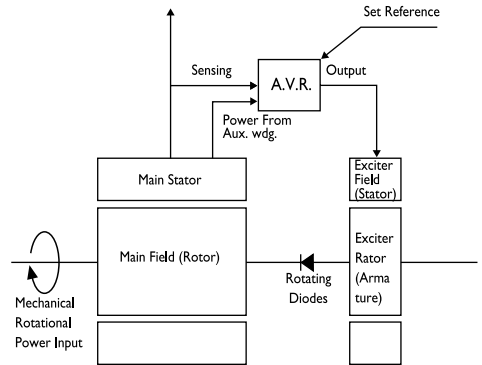

Figure 13.1. Meccalte alternator, operating principles block schematic diagram
The electrical power produced by the generating set is derived from a closed loop system consisting principally of the exciter rotor the main revolving field and the automatic voltage regulator (see Figure 13.1) The process begins when the engine starts to rotate the internal components of the alternator. The residual magnetism in the main rotor produces a small alternating voltage (AC) in the main stator. The automatic voltage regulator rectifies this voltage (converts it to DC) and applies it to the exciter stator.